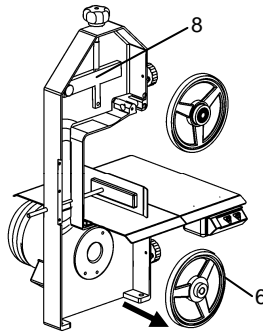

Fig. 7.7.5
- Slacken screw fixture 5 by turning it anticlockwise, with both hands grip pulley “6” and pull it towards yourself as illustrated in fig. 7.7.5 and clean with a sponge soaked with a pH 7 neutral detergent.